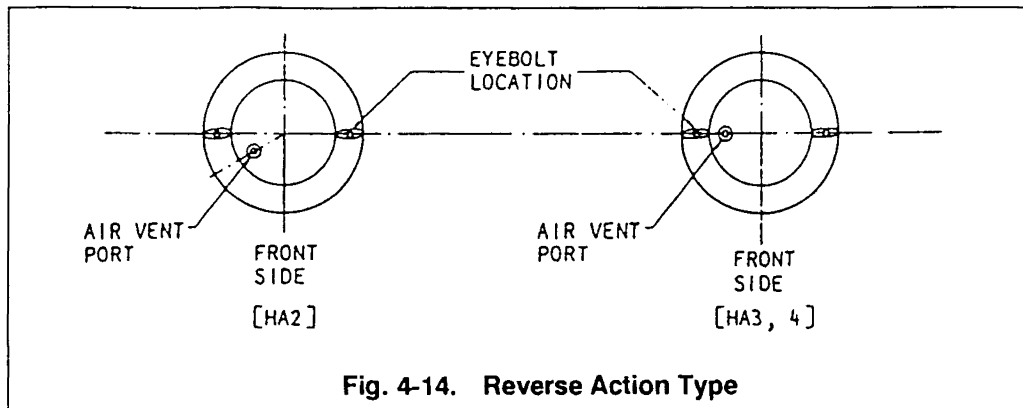

Fig. 4-14. Reverse Action Type
- (5) Place the top diaphragm case and fix it with the pair of eyebolts. Set the air vent hole in the location shown in the illustration (Fig. 4-14). Uniformly and alternately tighten the eyebolts. The initial setting of the springs is complete by tightening of these eyebolts.